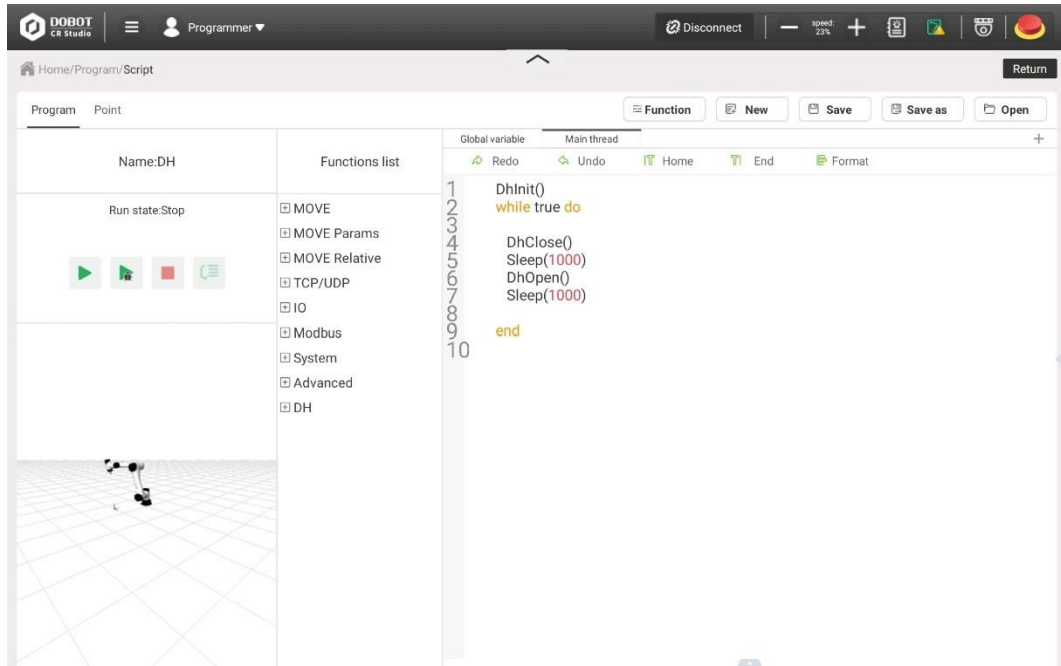

Figure 3.11 Write a program
**Step 2** Write programs by using the APIs that DH plug-in supports, as shown in Figure 3.11.